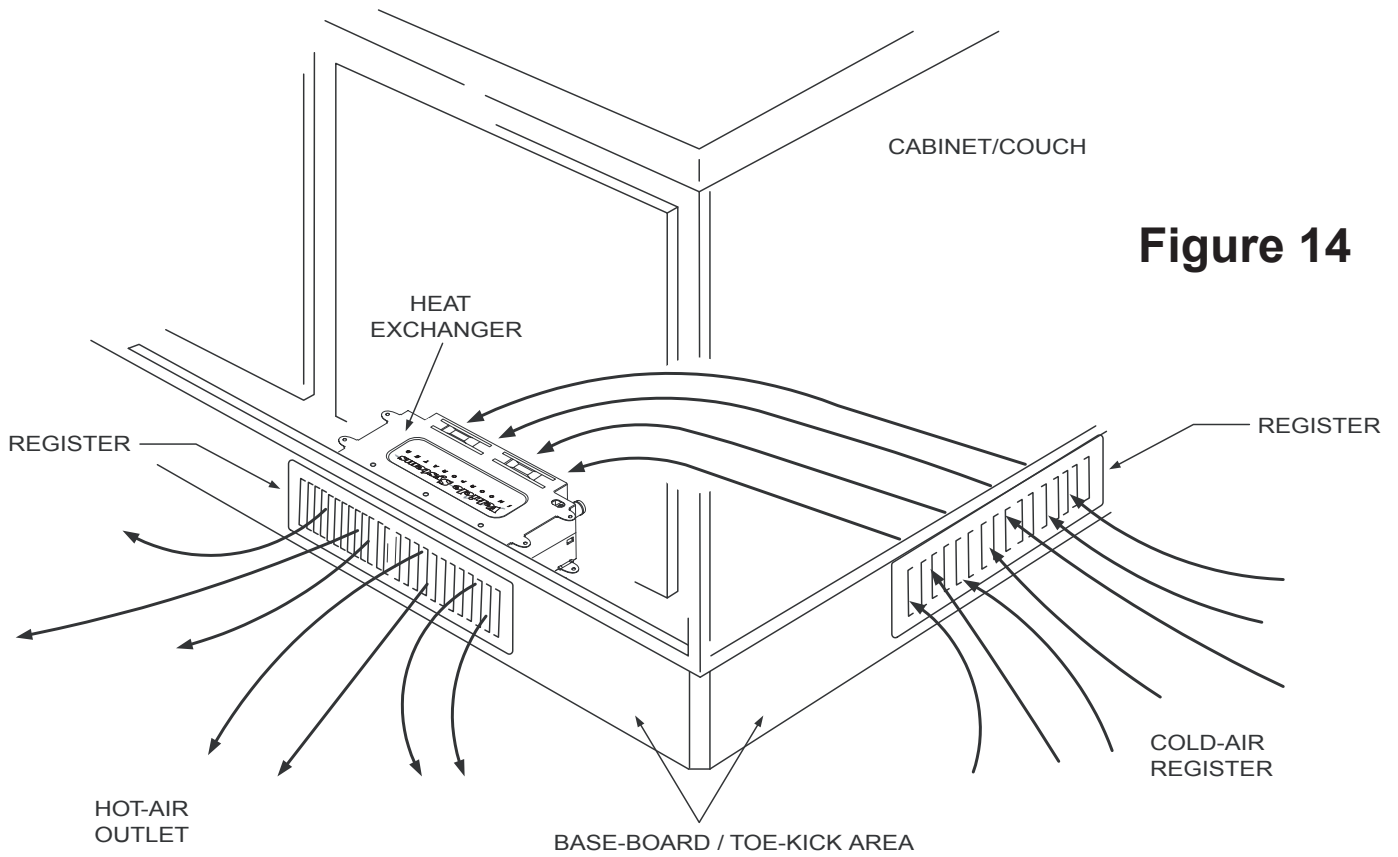

Figure 14
- Cut out a 2.5 inch x 10 inch opening for each Cozy III hot-air outlet and cold-air return register; reference Figure 14.
- Install the hot-air outlet and cold-air return registers; reference Figure 14.